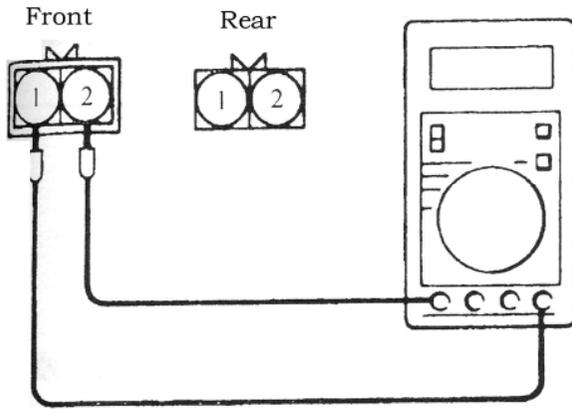

Fig. 16-66
1) Measure the resistance between the speed sensor terminals(see Fig. 16-66). If the internal resistance of the speed sensor is not within the standard value, replace with a new speed sensor.